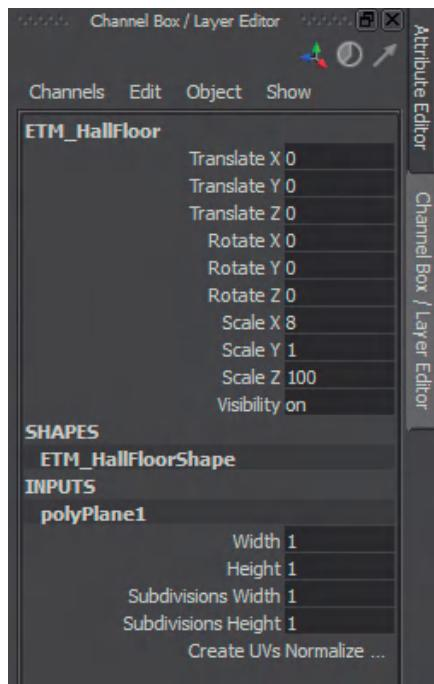

FIG 3.9 Final Channel Box settings for the hallway polygon plane (notice the name of the object in yours will be `polyPlane1`).
Step 9: Keep the polycount low by ensuring that the plane is one polygon. Do this in the Channel Box editor, by clicking on the `polyPlane1` (to expand it) under the INPUTS section. Make sure the Subdivision Width and Subdivision Height both read 1 (Fig. 3.9).